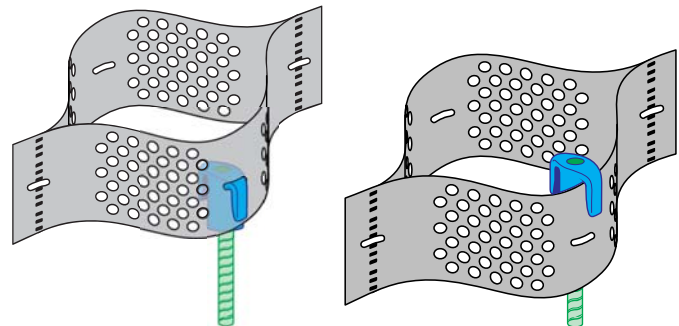

Figure 3 ATRA® Anchor Placement Options
- Partially expand the Geoweb® section and place the end cell of the section over its corresponding edge stake. When ATRA® Anchors are used, ensure the ATRA® Clip arm is hooked through the slot hole, or the anchor is placed over the cell wall. See Figure 3.